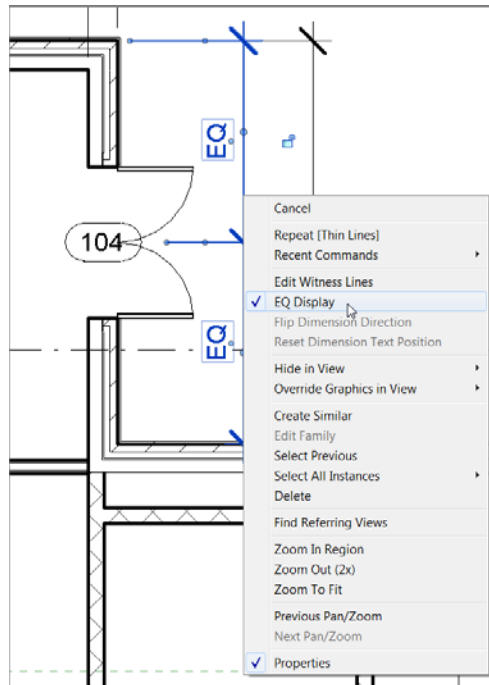

FIGURE 5.9: Toggle off the EQ Display.
3. Choose EQ Display (this deselects the option), as shown in Figure 5.9.